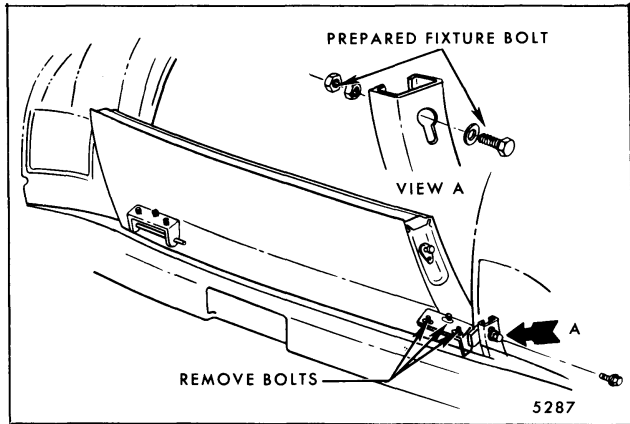

Fig. 7-101-Tail Gate Position For Removal
**NOTE:** Refer to Figure 7-101 and prepare a 1/4" 20 x 1" fixture bolt to serve as a roller stop for subsequent removal steps. In addition, tape a doubled fender cover or equivalent to upper surface of bumper face bar to protect gate.
3. Insert fixture bolt and nut assembly into key slot at upper end of right channel guide assembly below roller to hold synchronizing tube assembly in position during tail gate removal (Fig. 7-101).